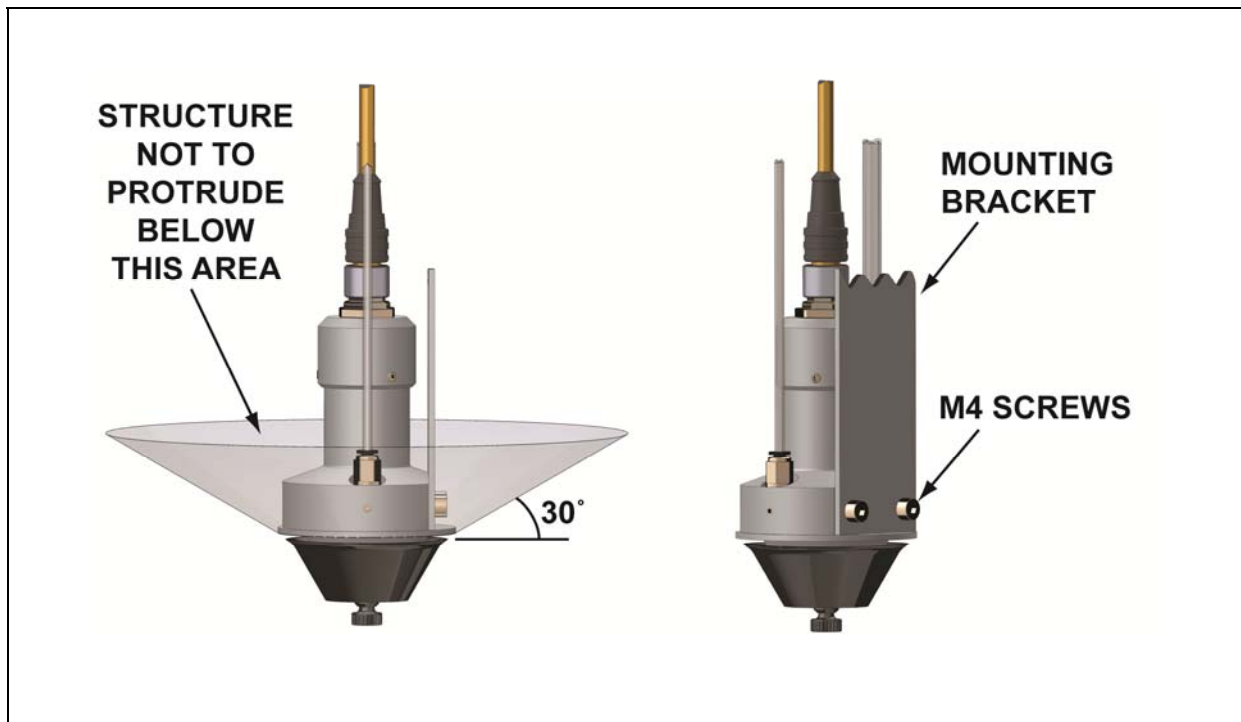

Fig. 2 – Mounting of Atomiser
- The atomiser should be attached to the mounting bracket with two M4 screws in the tapped holes in the side of the atomiser housing (25 mm between hole centres) as shown in Fig. 2. M4 x 12 mm stainless steel cap head screws are
- The bracket and any adjoining structure should not protrude below the area shown in Fig. 2. This is to minimise contamination by spray droplets from the rotating disc.